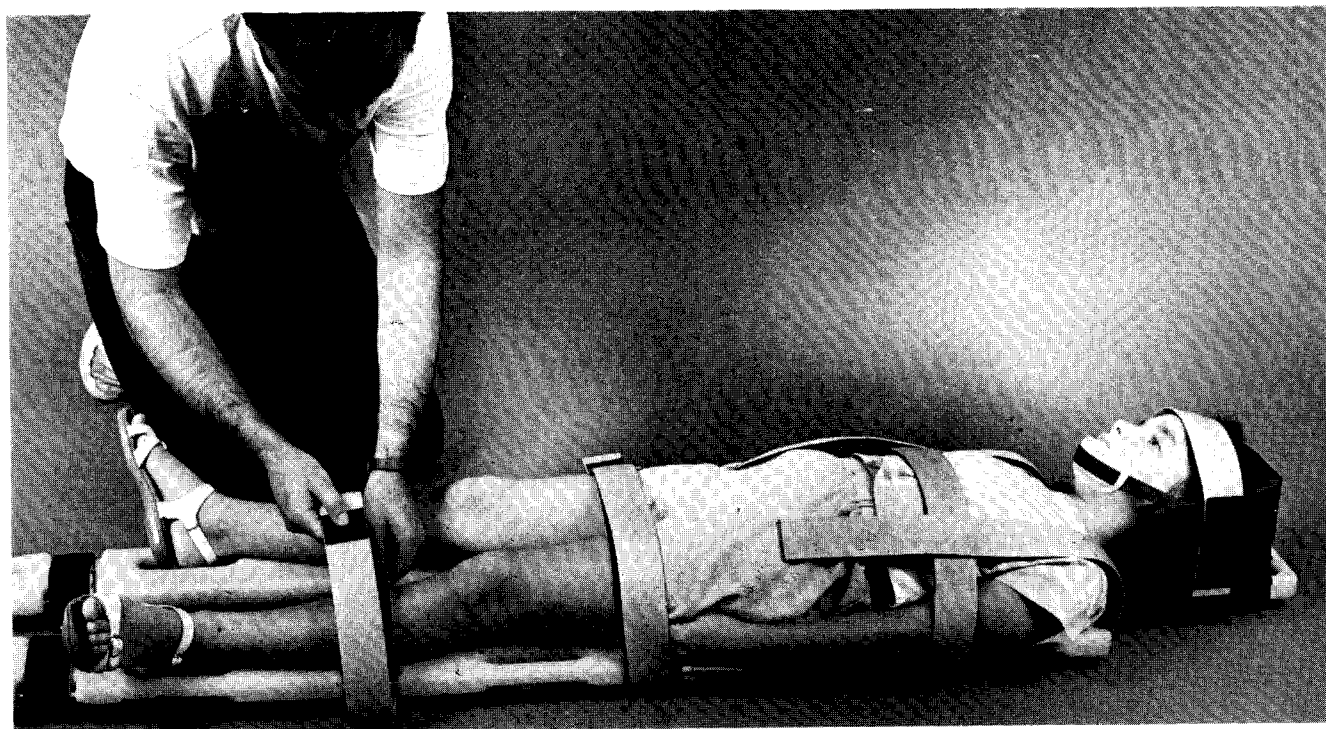

Figure 6.3
6.3 Adjust the leg straps for a small or pediatric patient by crossing the leg strap over the legs. (Figure 6.3)